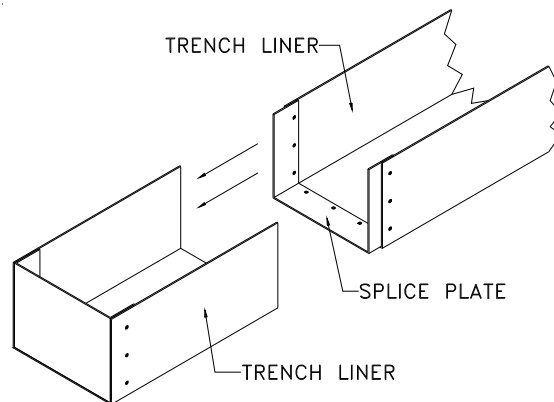

Figure 13
STEP 5. Slide the free end of the attached splice plate into the receiving end in the mating section of the trench liner (see Figure 13). Ensure that the mating sections of the trench liner are level, the proper width, and properly aligned. Ensure that the mating sections of the liner abut as closely as possible with one another.